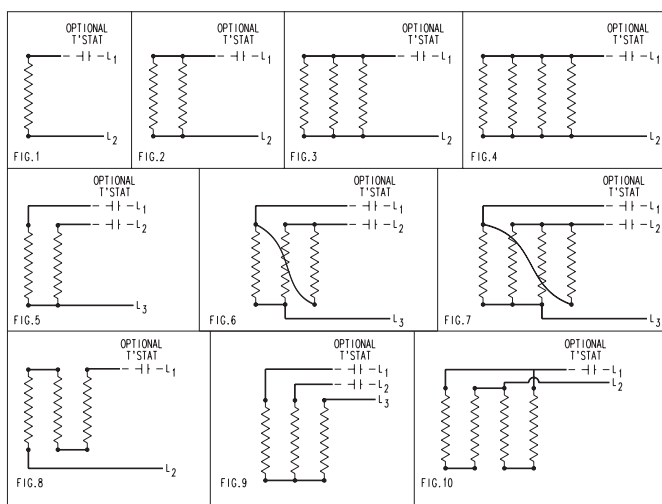

Figure 9 – Wiring Diagram
- 5.1 Connect the power leads to terminals marked L1 and L2 for single phase and L1, L2 & L3 for three phase heaters as shown in Figure 9, page 7.
Part No.	Wiring Diagram (Figure 9)